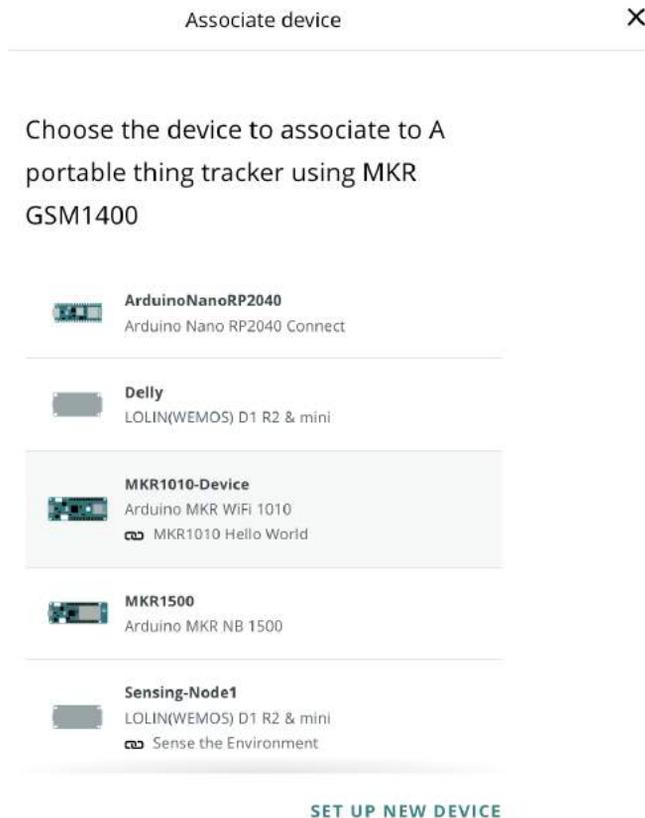

Figure 6.9 – Associate device – selecting a device
1. Before adding the device, connect the development board to the computer and open the **Arduino Create Agent** application. *Figure 6.9* shows a popup in which we have options to either select the existing device for association or set up a new device that is not available on the list.